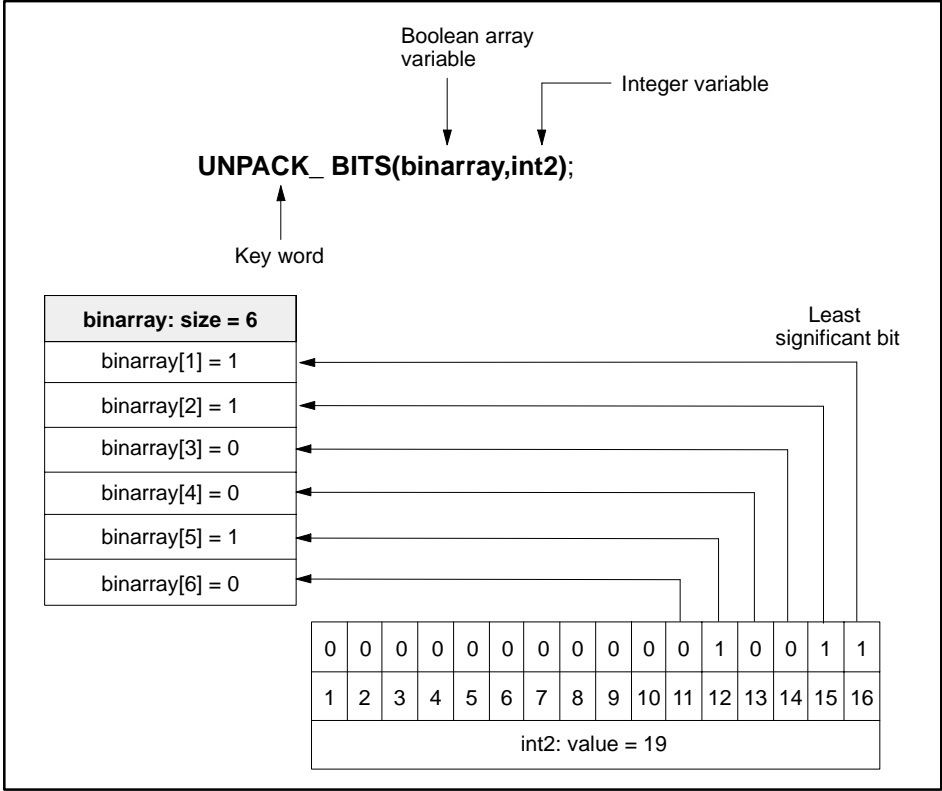

Figure 11-53 UNPACK_BITS Procedure
- The first variable is a boolean array that can contain up to 16 elements. The least significant bit becomes element 1 of the array. See the example in Figure 11-53.
Figure 11-53 shows how UNPACK_BITS shifts a specified number of bits from an integer into a boolean array.